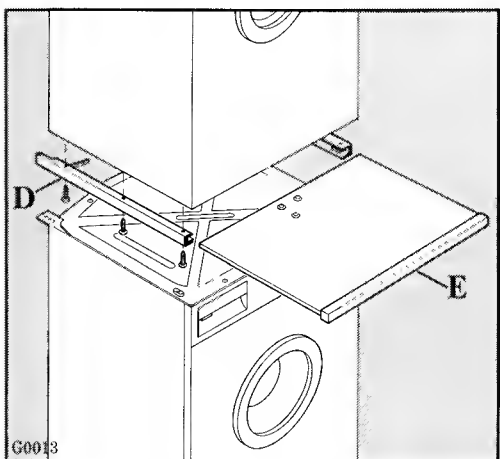

Fig. 11
6. Fit the two runners D at the base of the dryer as in Fig. 11.